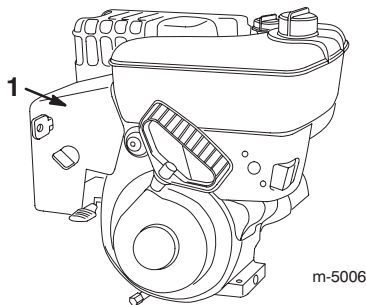

Figure 19
If you operate the engine when the air temperature is above 40°F (4°C), remove the carburetor heater box (Fig. 19).
1. Disconnect the wire from the spark plug and ensure that the wire does not contact the plug (Fig. 19).
4. Remove two screws and the three bolts that secure the carburetor heater box in place (Fig. 19).